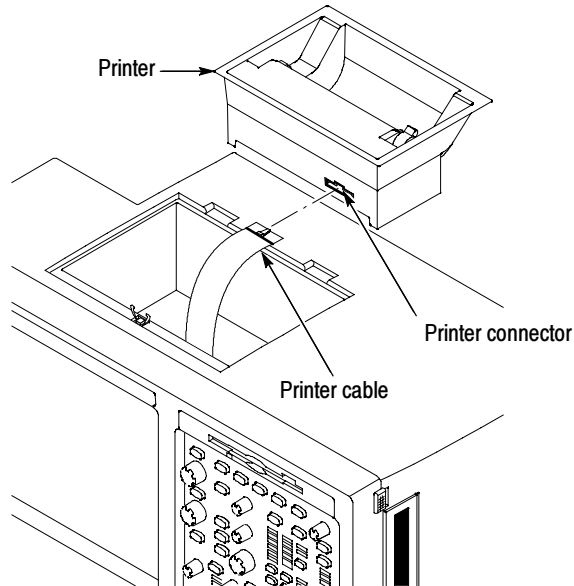

Figure 2: Printer cable connection
- d. If the internal printer is installed, disconnect the cable from the printer. See Figure 2 on page 8.